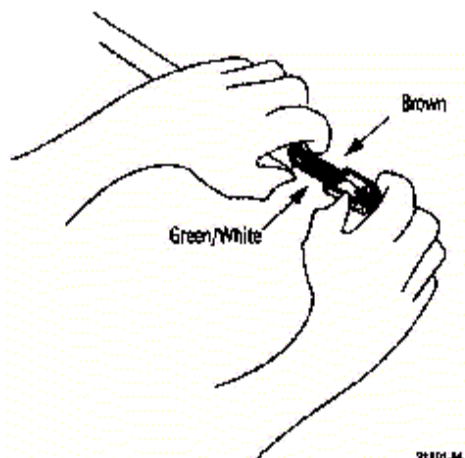

Figure 5.4 Orientation of the conductors.
6. Confirm the correct orientation of the conductors as shown in Figure 5.4, then insert the conductors into the connector body. Note that each wire has its own slot in the connector body.